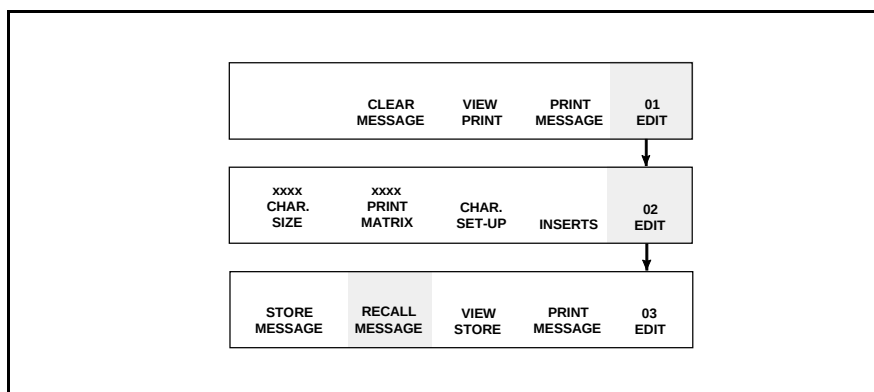

Figure 6-59. Accessing Frame <03 EDIT>
1. Begin in Frame <03 EDIT>. Refer to Figure 6-59.